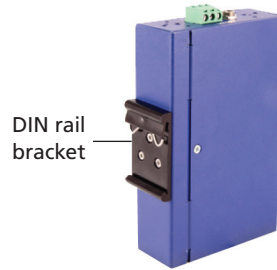

Figure 3. DIN rail bracket attached to hub.
**DIN rail mounting:** Attach the DIN rail bracket with the flat surface of the bracket facing the back of the hub, as shown in Figure 3.